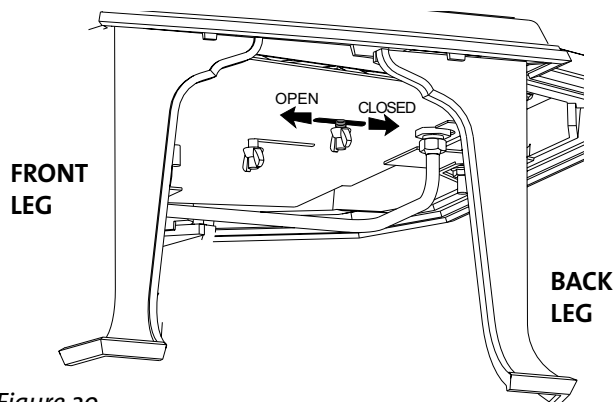

Figure 29. Loosen the wingnut to adjust the air shutter stem.
1. Reach under the right side of the stove and loosen the wingnut located closest to you. See fig. 29. Slide the wingnut stem forward to open the air shutter and increase air. Slide the shutter stem back to decrease the air supply.